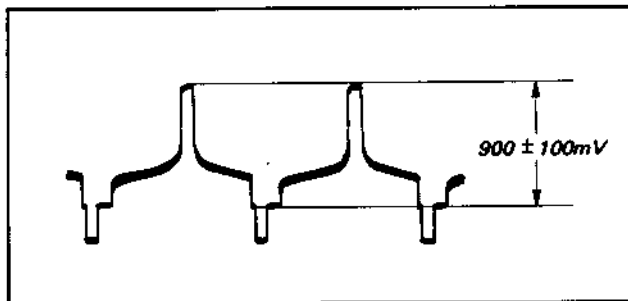

Fig. 2-26
- 2) Turn RV502 so as to make the value of waveform of Fig. 2-26 equal to  $900 \pm 100mV$ .